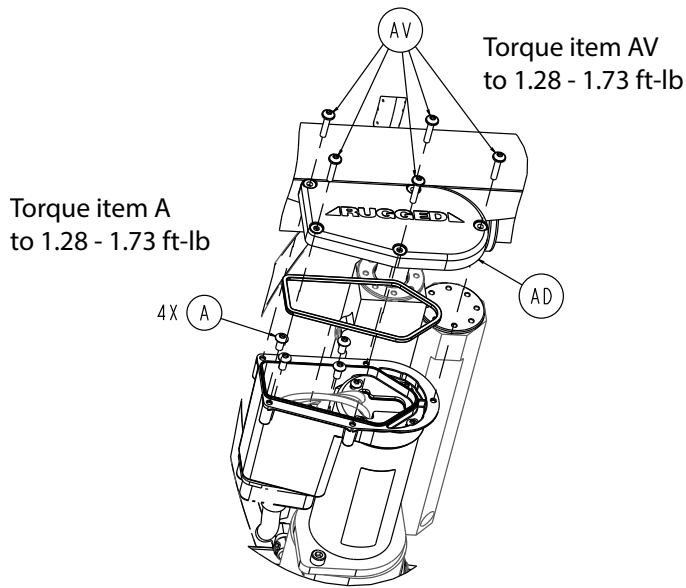

Figure 79 – Lift motor cable assembly components
17. Using a T20 Torx driver, remove the five round washer head tapping screws (AV) that secure the actuator end cap (AD) to the hydraulic assembly electrical box (Figure 79). Save the screws and end cap.
19. Using a T15 Torx driver, remove the four button head torx screws (A) that secure the lift motor cable assembly to the actuator cover (Figure 79). Save the screws.